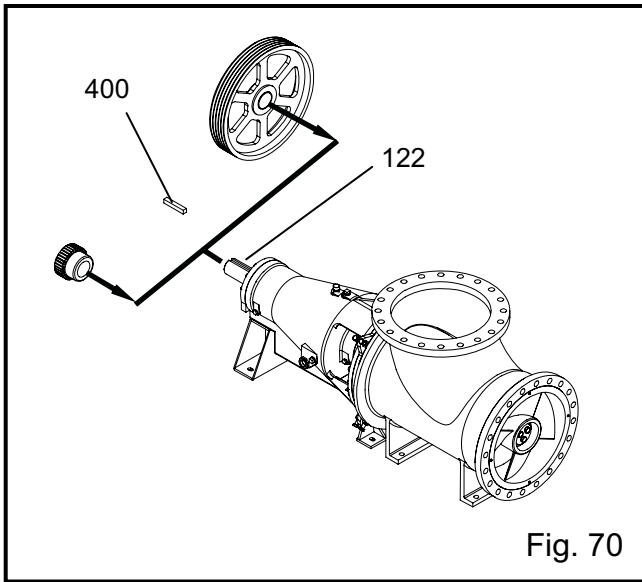

Fig. 70
19. Insert the drive key (400) into the shaft (122) keyseat. Depending on the drive type, install the hub fasteners for a coupling or sheave to the shaft (122). If you have a coupling half that is interference fit, you may need to heat it before installing on the shaft (122). Drive instructions are included with the data package. Follow the manufacturer's instructions for coupling or sheave installation, see Fig. 70 on the following page.